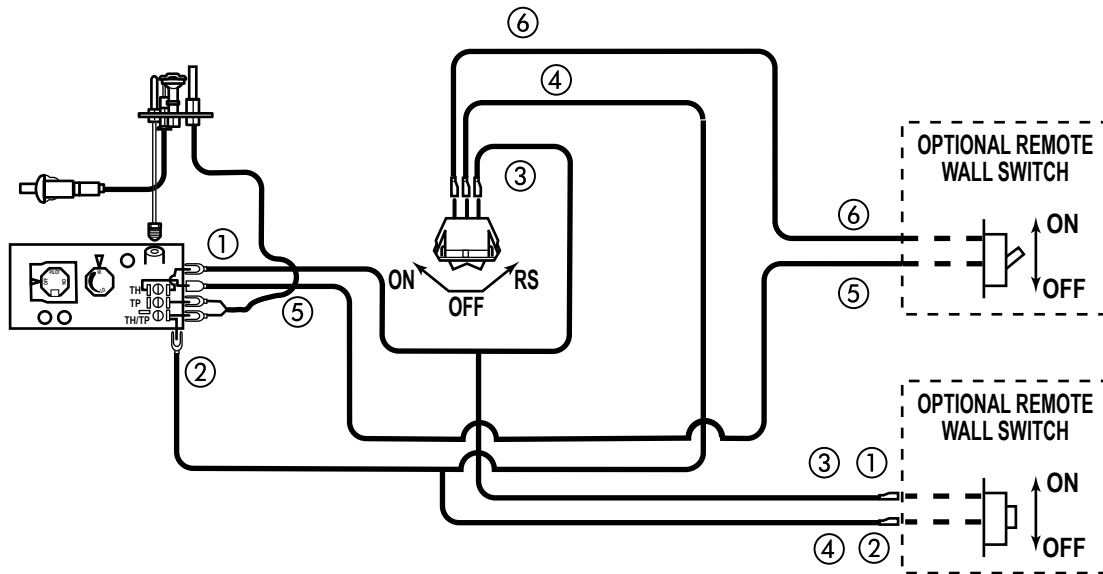

Figure 37 -
A remote wall switch and up to fifteen (15) feet of 18 Ga. wire may be used with this appliance. Attach the wall switch in a junction box at the desired location on the wall. *Figure 37*. Do not extend beyond the wall switch wire length provided.